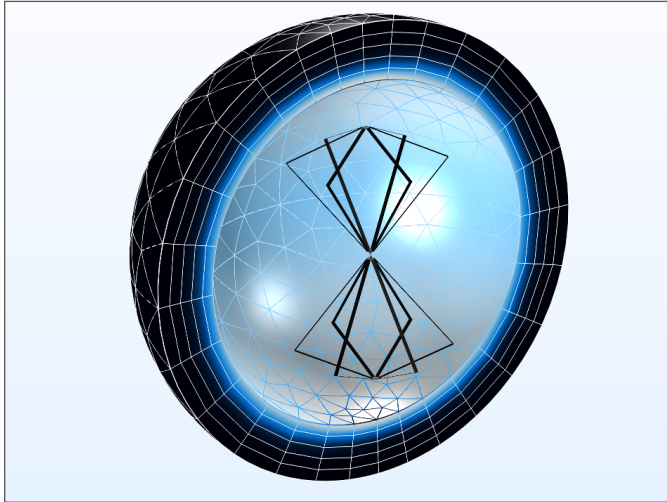

Figure 3: Biconical antenna enclosed by a PML. The PML at the front is removed from view to show the interior.
Figure 3 shows, the spectral plot of wireless coexistence scenario of a WLAN transmission and a 1 MHz wide EMI Bluetooth® signal in the middle of the wanted band. The WLAN module is connected to the radio communication tester access point (AP) using the IEEE 802.11g 20 MHz channel. The measurement result of WLAN communication with Bluetooth® in band EMI shows an average 15% PER over a transmission of 1,000 packets over the network. The EMI signal is introduced with a power level of -30 dBm.
smaller surrounding air domain enclosed by a perfectly matched layer (*Figure 3*).
Figure 3: Telecom providers are encouraging enclosure manufacturers to incorporate hardware that complements the industrial design of SWFs, like Southco's E6 Constant Torque Positioning Hinge series, which provides superior durability in harsh outdoor environments and improves aesthetics.